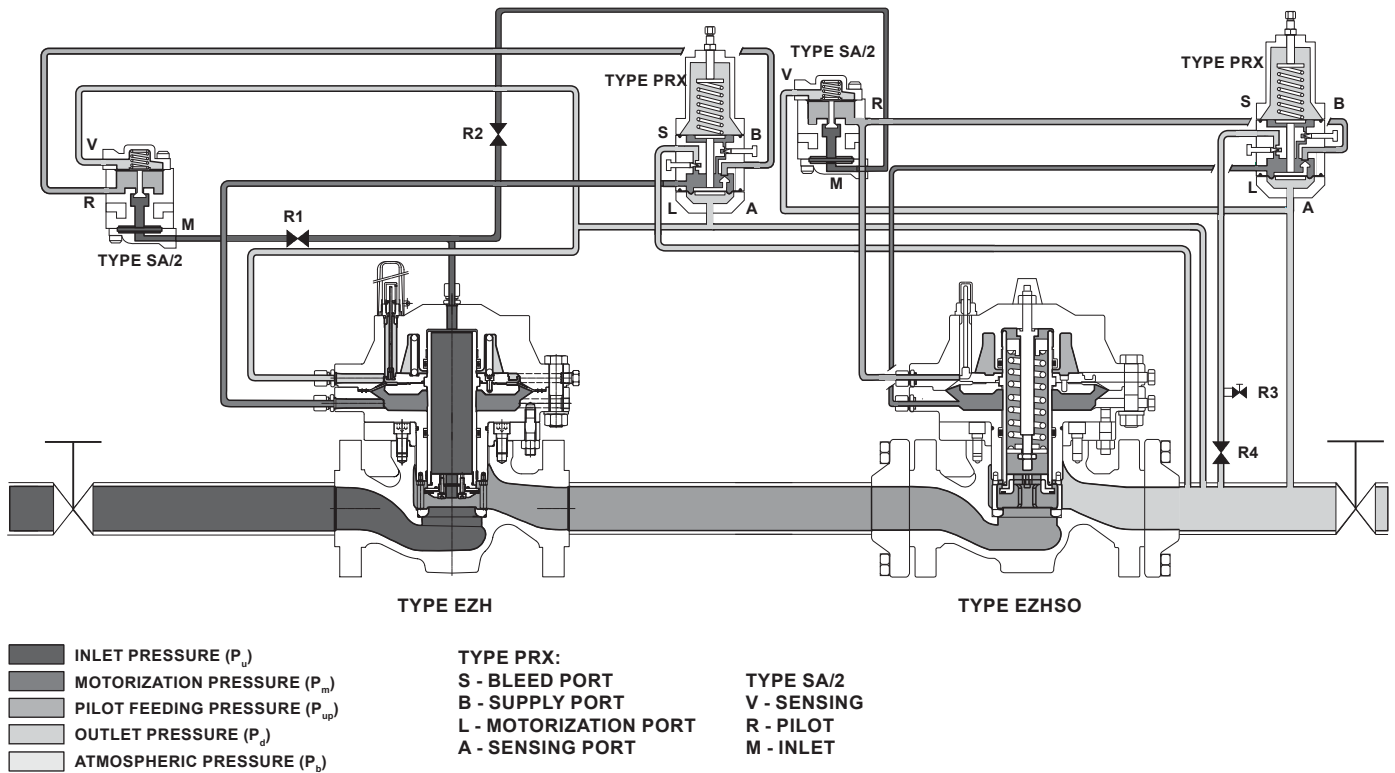

Figure 13. Upstream Wide-Open Monitoring System Operational Schematic for DN 25, 50 and 80
Figure 13 shows an upstream wide-open monitor Type EZH (Spring-to-Close) and a downstream active
The schematic from Figure 13 represents the configuration for the DN 25, 50 and 80, for the DN 100, 150 and 200 the schematic remains the same with the remark that a check valve (Figure 28) must be installed between outlet pressure and loading pressure impulse lines of the regulator and wide open monitor as well.
1. Follow the procedures in the All Installations section and then continue with step 2 of this section. The sense and bleed control lines of both the upstream and downstream pilots will be connected to the downstream piping (see Figure 13).